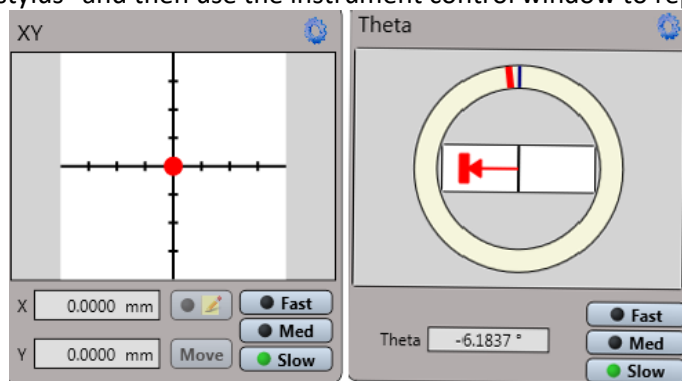

Figure 4 Auto Stage Controls X/Y & Theta
- b. Note: For additional access, the XY stage can be adjusted using the instrument control panel (Figure 4)
5. Use the stage controls (Figure 4) to position the sample/area of interest beneath the stylus.
9. Fine adjust the XY stage. Use the XY stage control (Figure 4) to direct the area of interest to the video crosshair